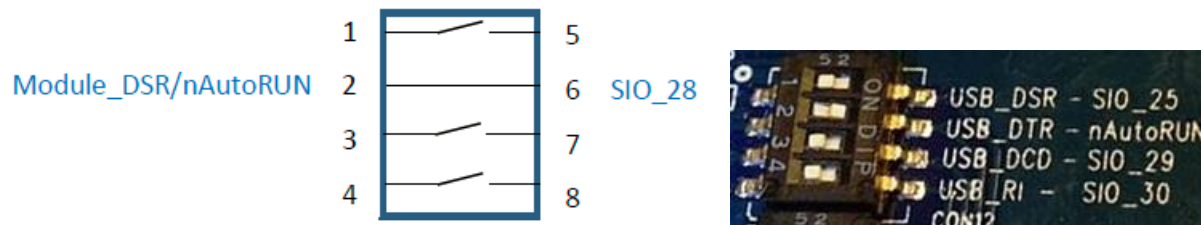

Figure 5: Micro DIP switch CON12 closed (nAutoRUN controlled by PC)
- CON12 (pin 2-6) MUST be CLOSED (in ON position) to allow PC (using uWTerminal) to control nAutoRUN pin (SIO.28); with no jumper fitted to J6 (see Figure 5).
Note: The additional lines of the DIP switch CON12 are not currently utilised and need to remain open, as shown in Figure 5.